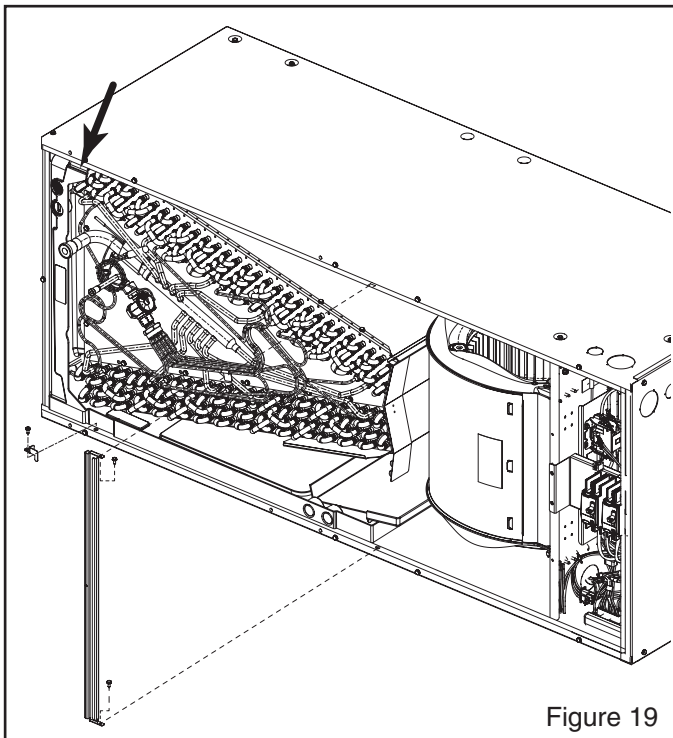

Figure 19
NOTE: The "N" coil replacement is taller than the "N" coil, see Figure 19. Some modification may be necessary to the unit or the return ductwork in downflow applications.
7. Reinstall the coil retaining brackets and horizontal brace(s). See Figure 19.